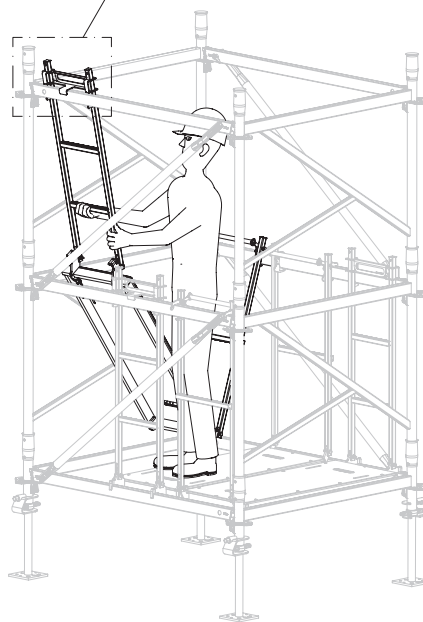

Fig. A1.15
- The yellow side is always higher when the decks are moved. Therefore, begin with the yellow side when moving upwards. (Fig. A1.15)